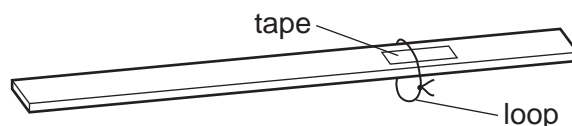

Fig. 1.2
- 3 The loop of cotton thread should be fixed at the 65 cm mark of the wooden 100 g metre rule using a small piece of adhesive tape, as shown in Fig. 1.2